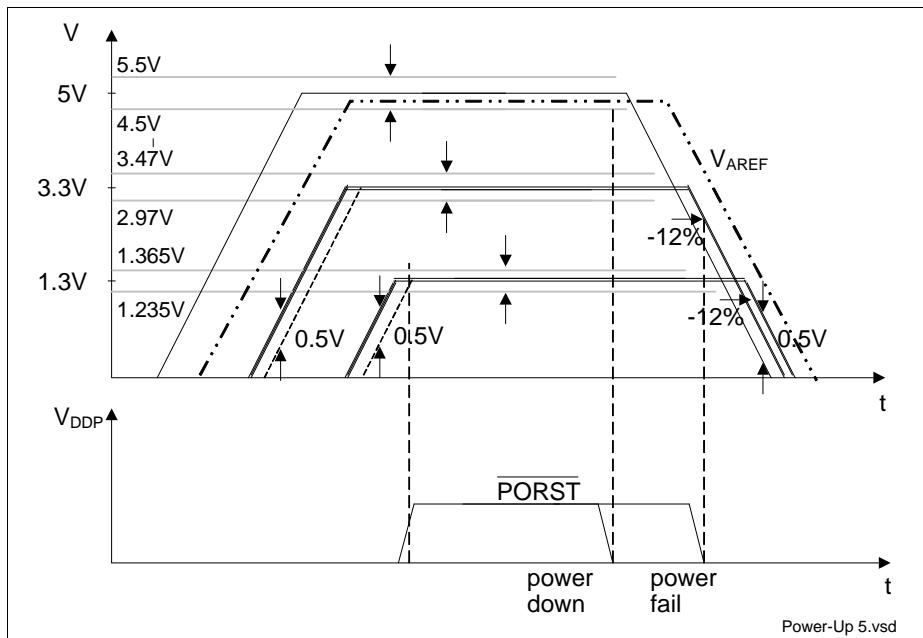

Figure 15 5 V / 3.3 V / 1.3 V Power-Up/Down Sequence for 5% Operating Range
- At any moment in time to avoid increased latch-up risk, each power supply must be higher than any lower_power_supply - 0.5 V, or: $V_{DD5} > V_{DD3.3} - 0.5 \text{ V}$; $V_{DD5} > V_{DD1.3} - 0.5 \text{ V}$; $V_{DD3.3} > V_{DD1.3} - 0.5 \text{ V}$, see **Figure 15**.